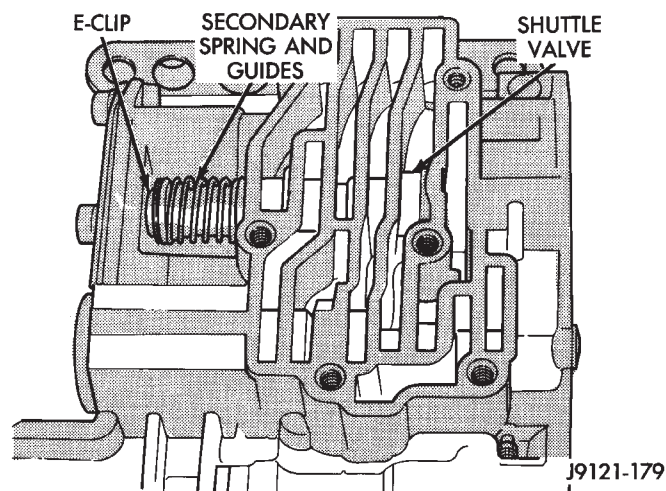

Fig. 120 Shuttle Valve E-Clip And Secondary Spring Location
(2) Remove E-clip that secure shuttle valve secondary spring on valve stem (Fig. 120).